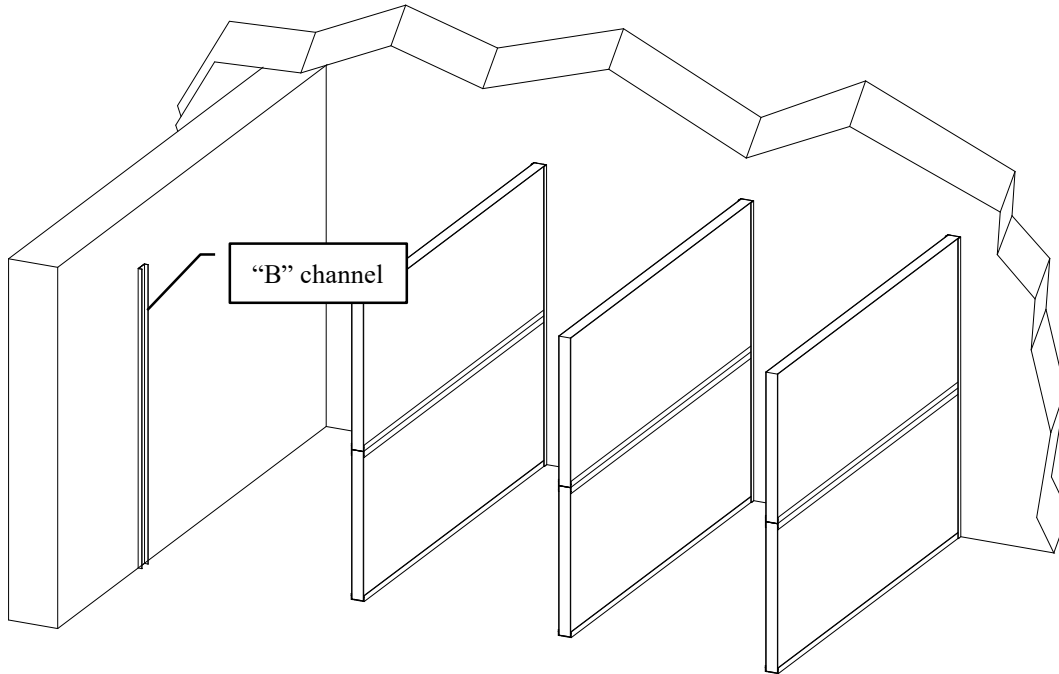

Figure 18
2. Position a “B” channel at the desired location according to your layout and secure to the wall with the supplied fasteners. See figure 18. Use a level to make sure the channel is vertical. Repeat for the opposite wall if your system end at a building wall at either end of the system. Skip to step 4.